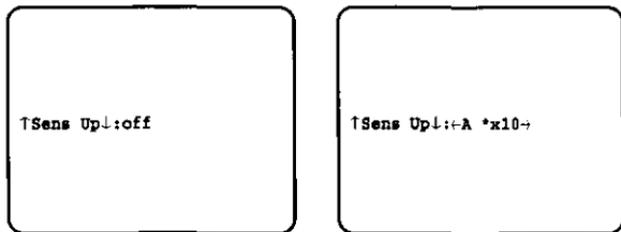

Fig. 5
1. Display the Sens Up Menu as show in Fig. 5 by repeating the previous procedures.